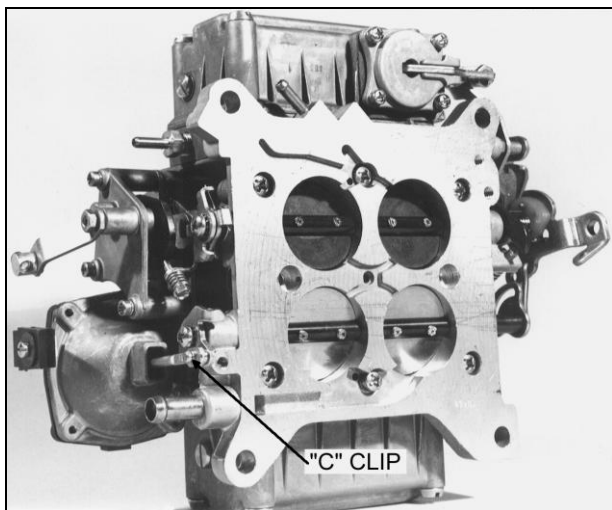

FIGURE 1
1. Place carburetor on its side to remove the throttle body screws. On vacuum secondary four barrels it will be necessary to remove the "C" clip which holds the vacuum diaphragm stem onto the secondary throttle shaft. See Figure 1.